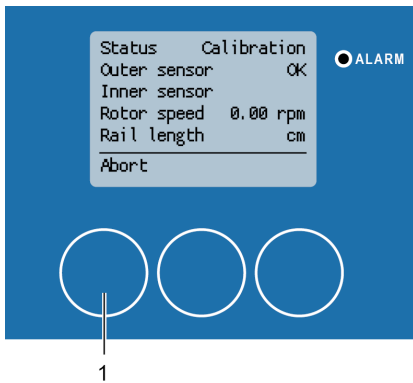
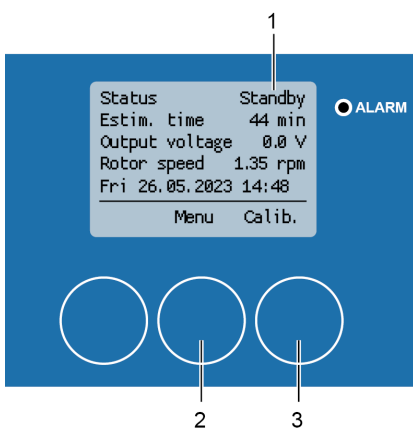

Fig. 117: Abort calibration
Fig. 118: Calibration aborted
1. Press [Abort] (Fig. 117/1) to abort the calibration. The calibration process stops and the status indication shows “Standby” (Fig. 118/1)
2. Press [Menu] (Fig. 118/2) to open the “1 Main menu” menu or [Calib.] (Fig. 118/3) to restart the calibration.
The calibration can be aborted at any time during the calibration process. If the calibration is restarted via [Calib.] (Fig. 118/3), the cleaning carriage initially moves back to its starting position. The calibration then starts again. The calibration is mandatory. Otherwise, no entry screen for cleaning appears and cleaning cannot be started.